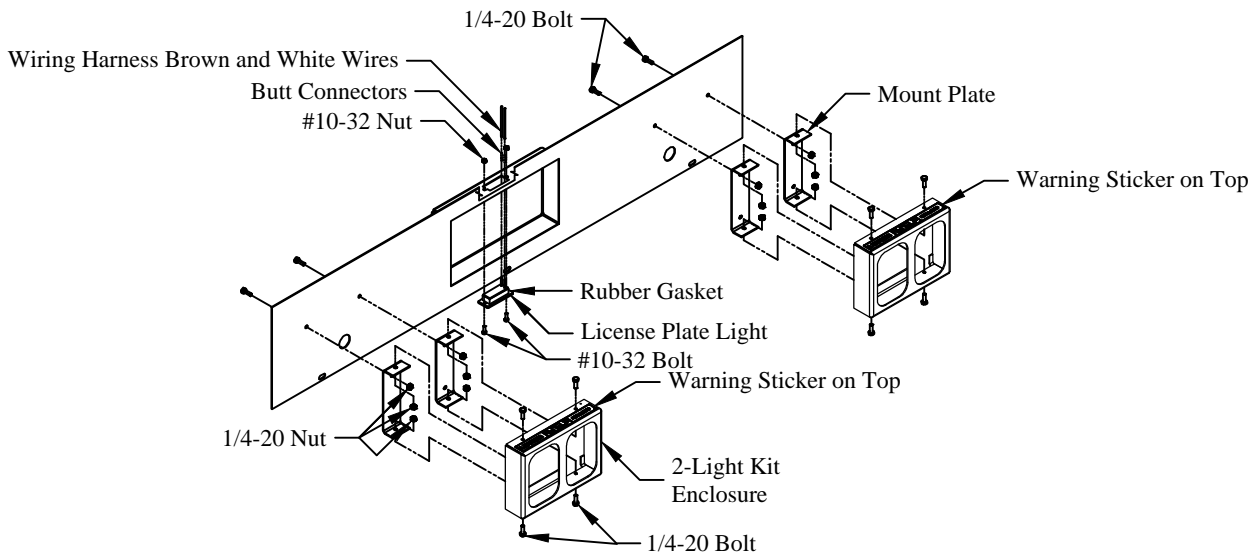

Figure 6: Box Cover Assembly
- 1. Loosely Attach** two (2) mount plates to the back of each enclosure using two (2) 1/4-20 nuts and bolts per mount plate (Figure 6).
- 2. Loosely Attach** each enclosure to the box cover using one (1) 1/4-20 nut and bolt through the upper hole of each mount plate (Figure 6).
- Note: Ensure the warning stickers are on top (Figure 6).
- 3. Tighten** the twelve (12) nuts and bolts attached in steps 1 and 2.
- 4. Ensure** the rubber gasket is in place on the license plate light (Figure 6).
- 5. Mount** the license plate light using two (2) #10-32 nuts and bolts (Figure 6).
- Splice** the license plate light wires to one pair of the blunt-cut white and brown wires (Figure 6).